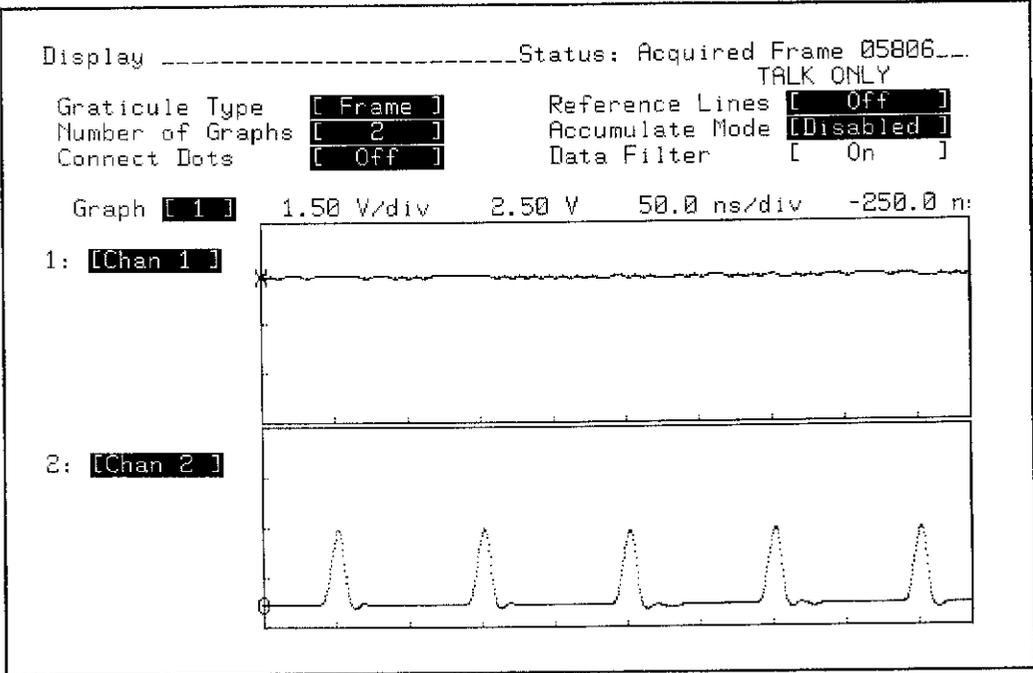

Figure 3-47. Threshold Accuracy Test Waveform
11. Exchange the BNC cables connected to Channel 2 and External Trigger inputs. The display should appear similar to figure 3-47.
13. Increase the output of the DC Supply until the Channel 2 pulses reappear as shown in figure 3-47. The DC Supply should read ≥ 3.78 V and ≤ 4.22 V.
24. Decrease the magnitude of the output level of the DC Supply in 0.01 volt steps until the Channel 2 waveform appears as shown in figure 3-47. The DC Supply should read ≤ -3.78 V and ≥ -4.22 V.